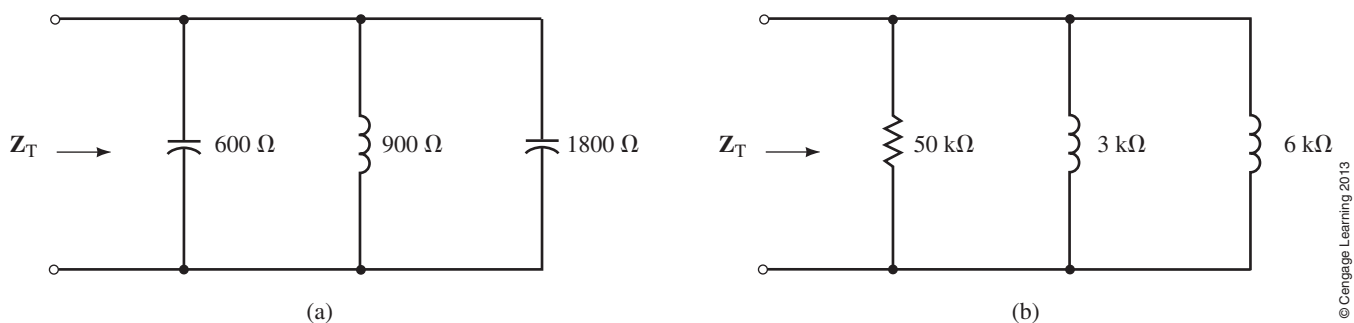

FIGURE 18-102
40. Repeat Problem 39 for Figure 18-102.